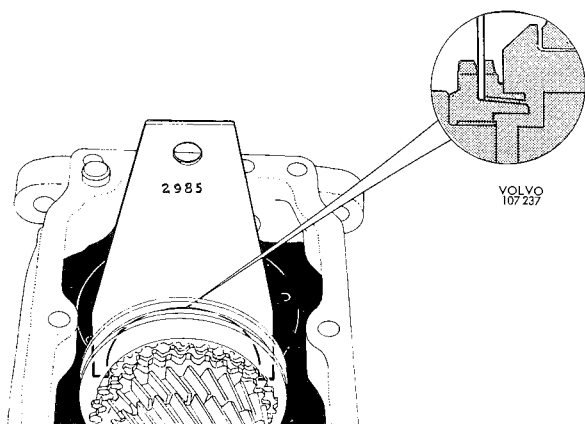
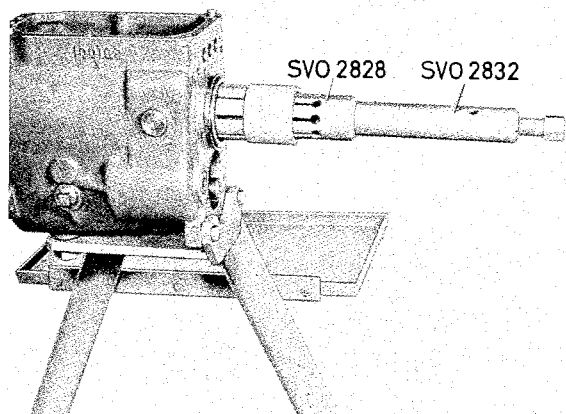

Fig. 4-13. Counterhold for main shaft
Fig. 4-14. Removing main shaft rear bearing, M 410
5. Place counterhold 2895 between the input shaft and the front synchronizing, see Fig. 4-13. Remove the bolt in 2828 and replace with tool 2832. Pull off the mainshaft rear bearing with pullers 2828 and 2832, see Fig. 4-14.